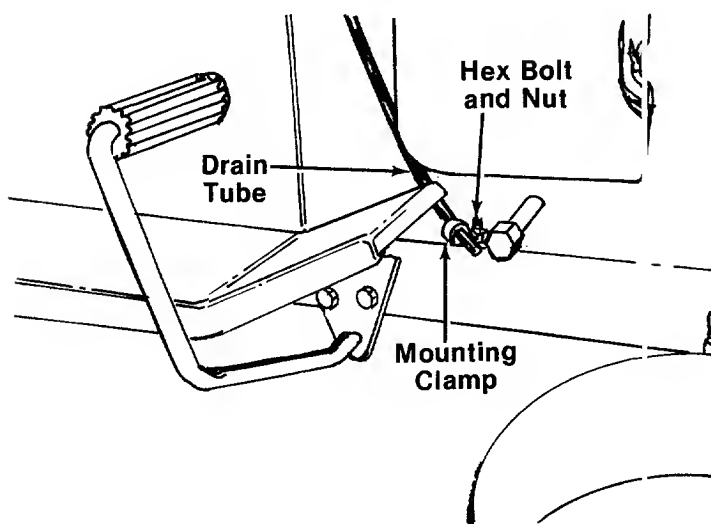

FIGURE 3.
**16 H.P. Tractor**—Slip the end of the drain tube into the mounting clamp provided in hardware pack. Secure the mounting clamp to the tractor by placing the clamp over the hex bolt and nut which hold the engine pulley belt guard to the frame. Secure in place with hex lock nut provided in hardware pack. See figure 3.